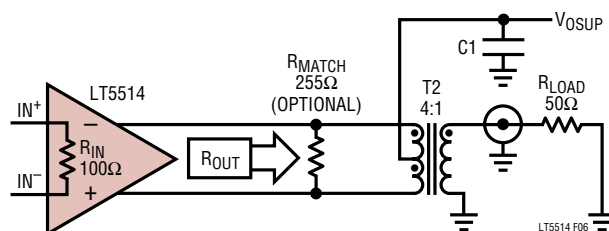

Figure 6. Output Impedance-Matched and Transformer-Coupled to a Single-Ended Load
- The insertion loss of the output impedance transformation network (for example the transformer insertion loss in Figure 6)
- About  $-3\text{dB}$  loss if a matching resistor ( $R_{MATCH}$  in Figure 6) is used to provide output load impedance back-matching (for example when driving transmission lines)